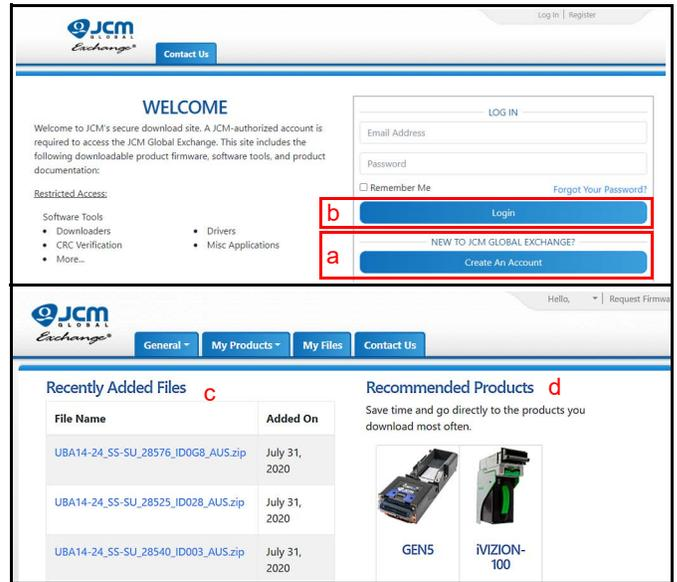

Figure 2 JCM Global Exchange Login and Landing Pages (cut-away)
**Answer:** The JCM Global Exchange Site (**Figure 2**) offers one-stop access to JCM Firmware, Software Tools, Product Manuals and Guides. Authorized users logged into the Global Exchange Site have access to JCM Documentation, including full service Product Manuals, Training Guides and Operational Guides. JCM Software Tools can also be downloaded from the General tab, including:
With Firmware Download access, the Landing Page displays currently-released firmware for your jurisdiction (**Figure 2 c**), along with quick links to firmware files for products viewed most often (**Figure 2 d**).
To log in to the [JCM Global Exchange](https://exchange.jcmglobal.com) Site, click on the Create An Account button (**Figure 2 a**) to create a new account, fill in the required information and submit it.
**Note:** For currently-registered accounts, click on the Login button (**Figure 2 b**). To access the [JCM Global Exchange](https://exchange.jcmglobal.com) Site, go to <https://exchange.jcmglobal.com>.